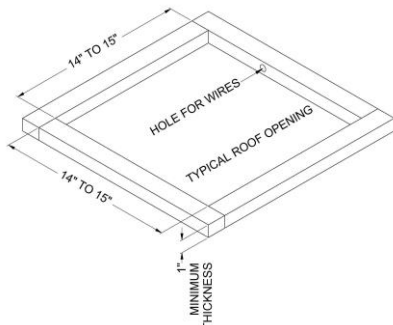

Figure 1
3. Examine the roof opening. If the opening is smaller than 14" x 14", the opening must be enlarged. If the opening exceeds 15" x 15", a mounting frame must be field fabricated to reduce the opening size (See Figure 1).
B. If a roof vent opening is not used, a new opening (See Figure 1) will have to be cut into the vehicle roof. A matching opening will also have to be cut into the interior vehicle ceiling. If the ceiling opening is carpeted, snagging could occur. After the opening in the roof and interior ceiling are the correct size, a framed support structure must be provided between the exterior roof top and the interior ceiling. The reinforced frame structure must provide the following:
Airxcel, Inc. requires that the spacing from the vehicle roof top to the interior ceiling be no less than 1". A typical support frame is shown in Figure 1.